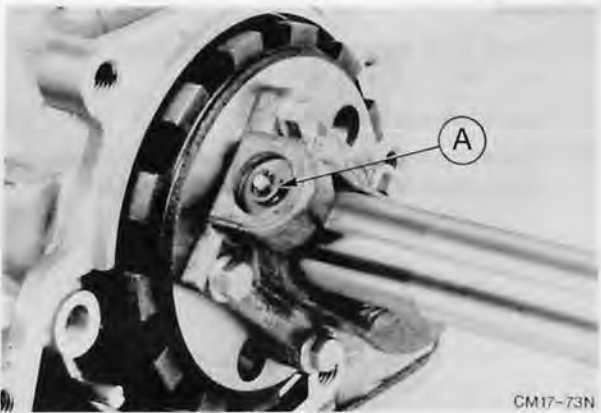

Fig. 143. Governor installed
4. Remove circlip from governor connecting pin and withdraw governor valve. Detach governor from governor hub (4 bolts), Fig. 143.
6. Fit governor connecting pin and valve and secure with a **new** circlip, Fig. 143.